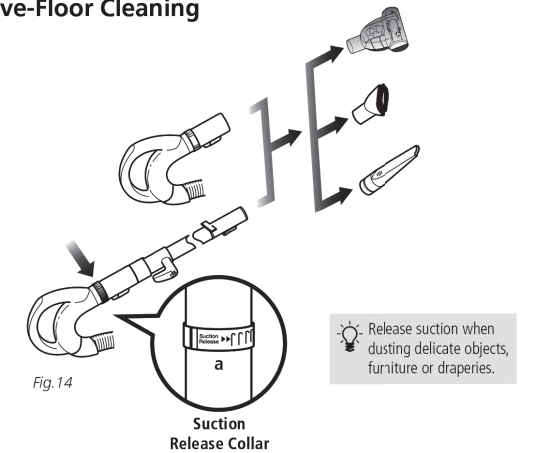

Fig. 14
- Attach desired accessory onto the end of either the extension wand or the handle. (Fig. 14)